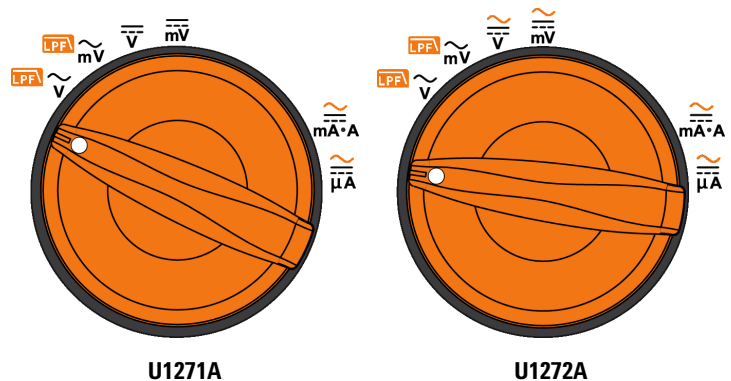

Figure 2-36 Functions allowing frequency measurement
Your multimeter allows simultaneous monitoring of real-time voltage or current with frequency, duty cycle, or pulse width measurements. **Figure 2-36** highlights the primary functions allowing frequency measurements in your multimeter.
- 1 To measure frequency, rotate the switch to one of the primary functions allowing frequency measurements highlighted in **Figure 2-36**.
- 1 To measure pulse width, position the rotary switch to one of the functions allowing frequency measurements shown in **Figure 2-36**.
- 1 To measure duty cycle, position the rotary switch on one of the functions allowing frequency measurements shown in **Figure 2-36**.